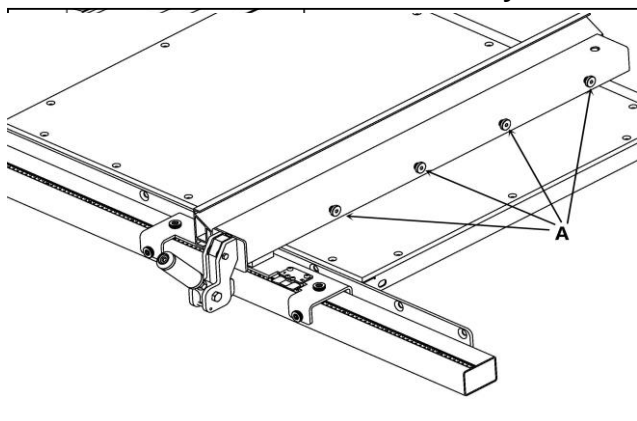

Fig. 10
2. Install the fence on the rail on the right hand side of the blade as shown in Fig. 10.
If you need to use the fence on the left side of the blade, remove the knobs (A), as shown in Fig.10, and move the fence plate and locking bar to the right side of the fence body, secure them on the left side of the fence body.